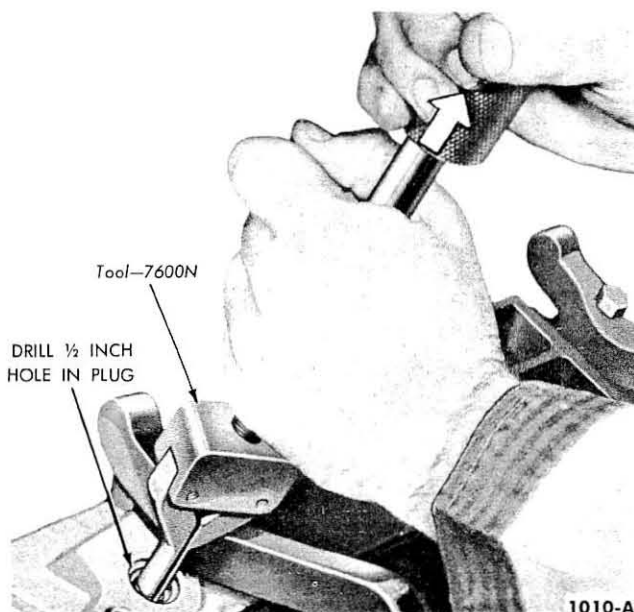

Fig. 10—Water Outlet Plug Removal—Typical
**Water Outlet Plug.** To remove the plug, drill a 1/2-inch hole in the center of the plug and remove it as shown in Fig. 10.